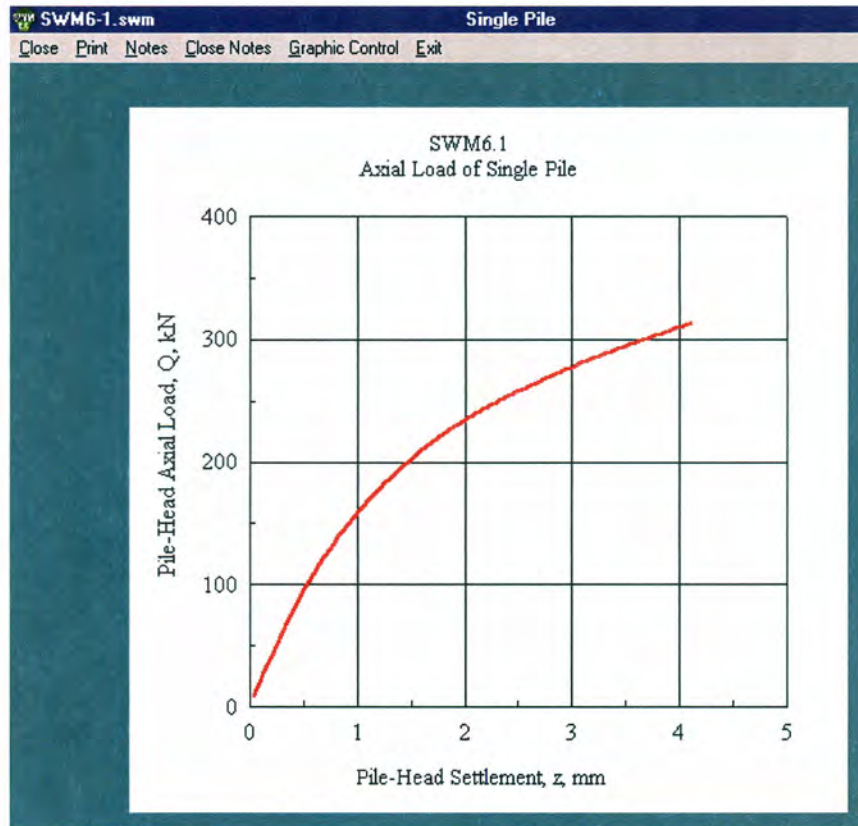

Fig. 24 Axial Load vs. Pile/Pile Head Settlement
- **Load-Settlement Curve** [Fig. 24]